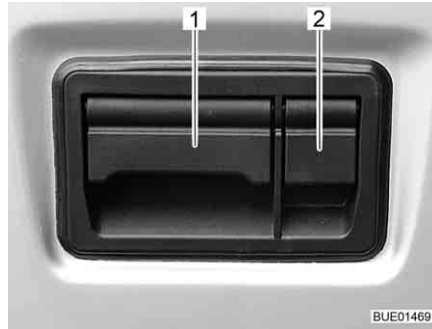

Fig. 31 Flap lock rear flap, outside
- Open the protective flap (Fig. 31,2).
- Pull the flap (Fig. 31,1) upwards and open the rear flap.